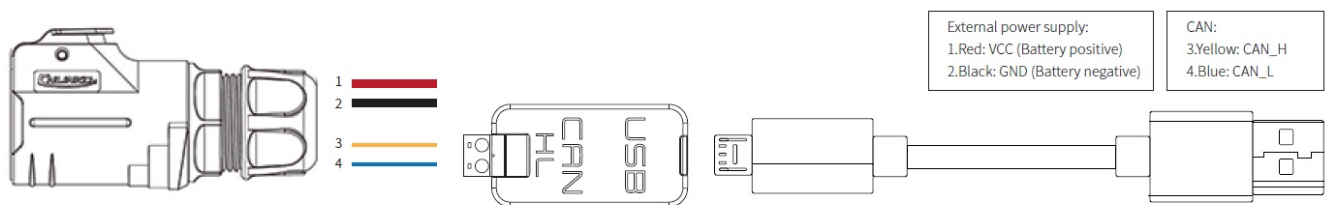

Figure 3.4 CAN connection diagram
- Connect the CAN\_TO\_USB to the usb point of the notebook. The connection diagram is shown in Figure 3.4.